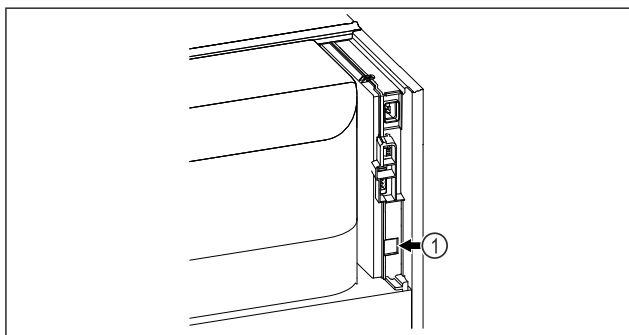

Fig. 168
- ❑ SmartModule Fig. 168 (1) is in use.